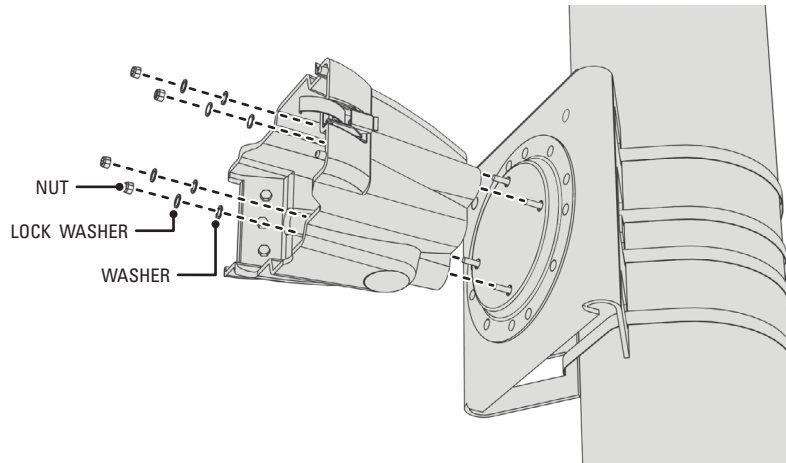

Figure 13. Installing the J-Box (*EWM shown*)
4. Secure the J-box to the mount (refer to Figure 13).
- The nuts, washers, and lock washers shown in Figure 13 are for illustration only. They are not supplied with the EW5001. Use the actual hardware from the mount to secure the J-box to the mount.